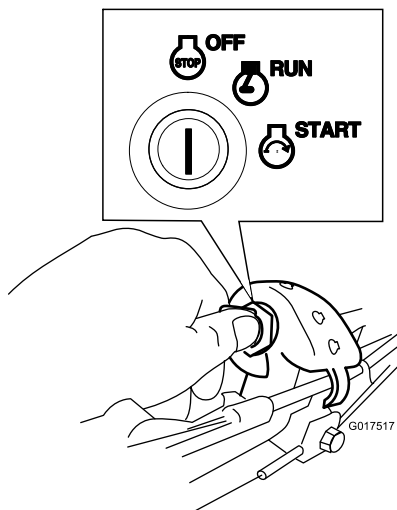

Figure 20
1. Turn the ignition key to the OFF position (Figure 20).